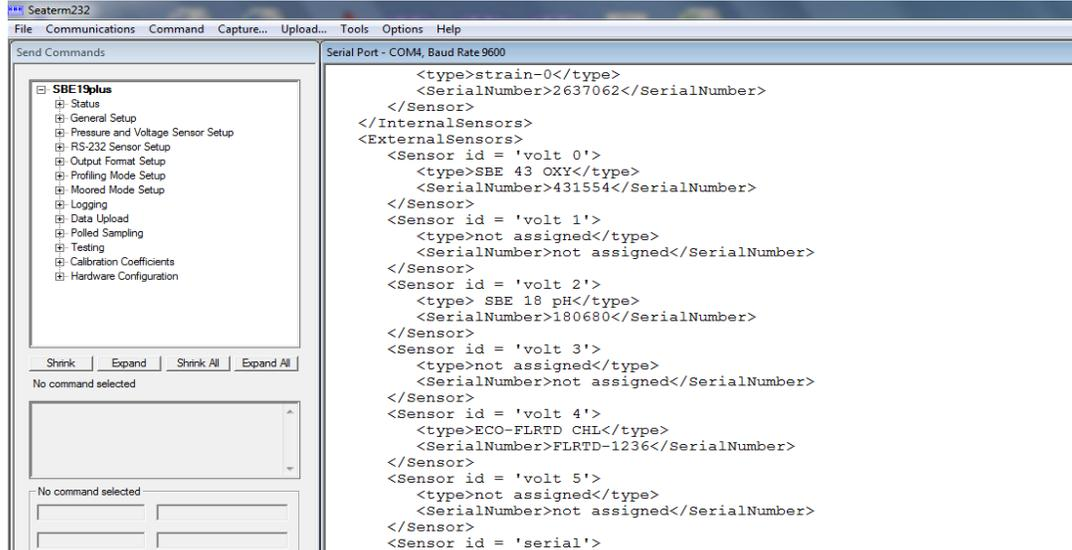

Figure 1.3 Establishing communication between Seaterm V2 and the profiler.
5. Choose SBE 19plus V2. Your device and profiler will attempt to communicate with each other and if they are successful, your screen will now look something like Figure 1.3 with either an <Executed/> prompt or an S> prompt at the bottom, which means the profiler is ready and waiting for a command.